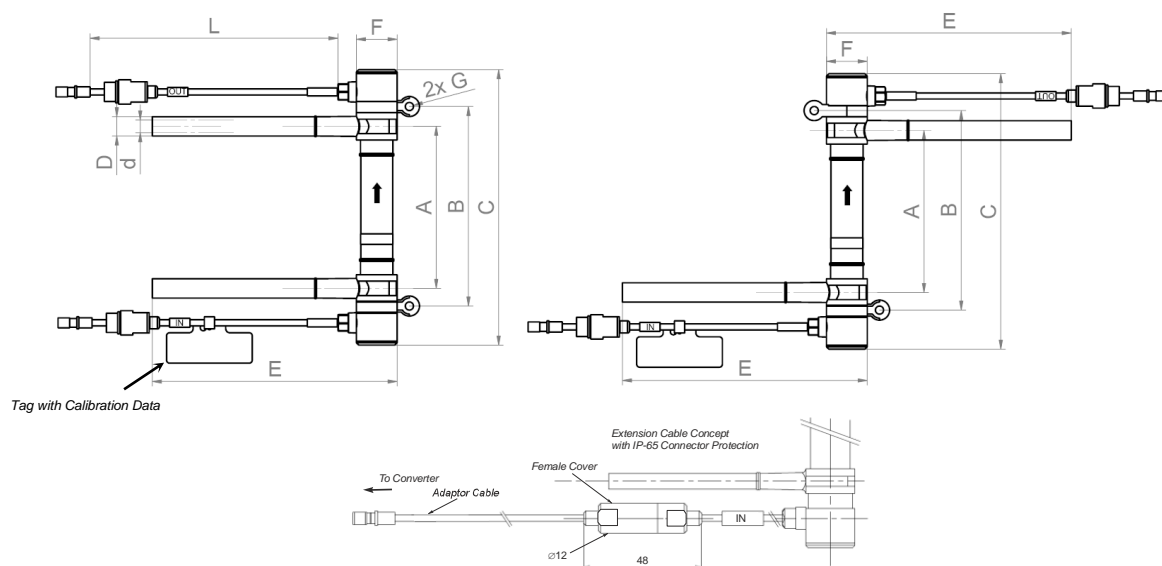
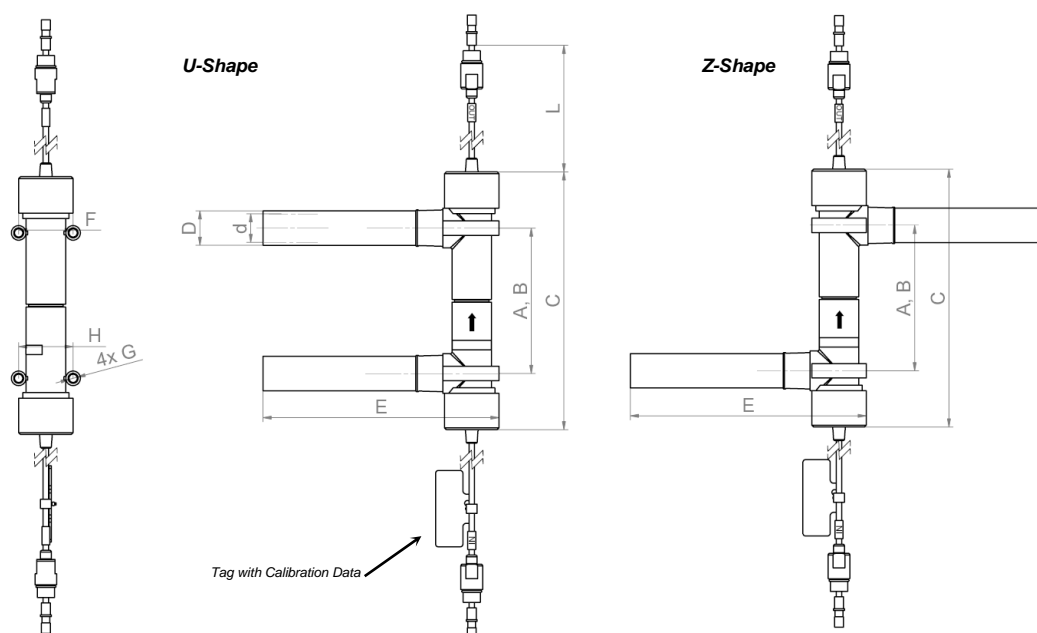
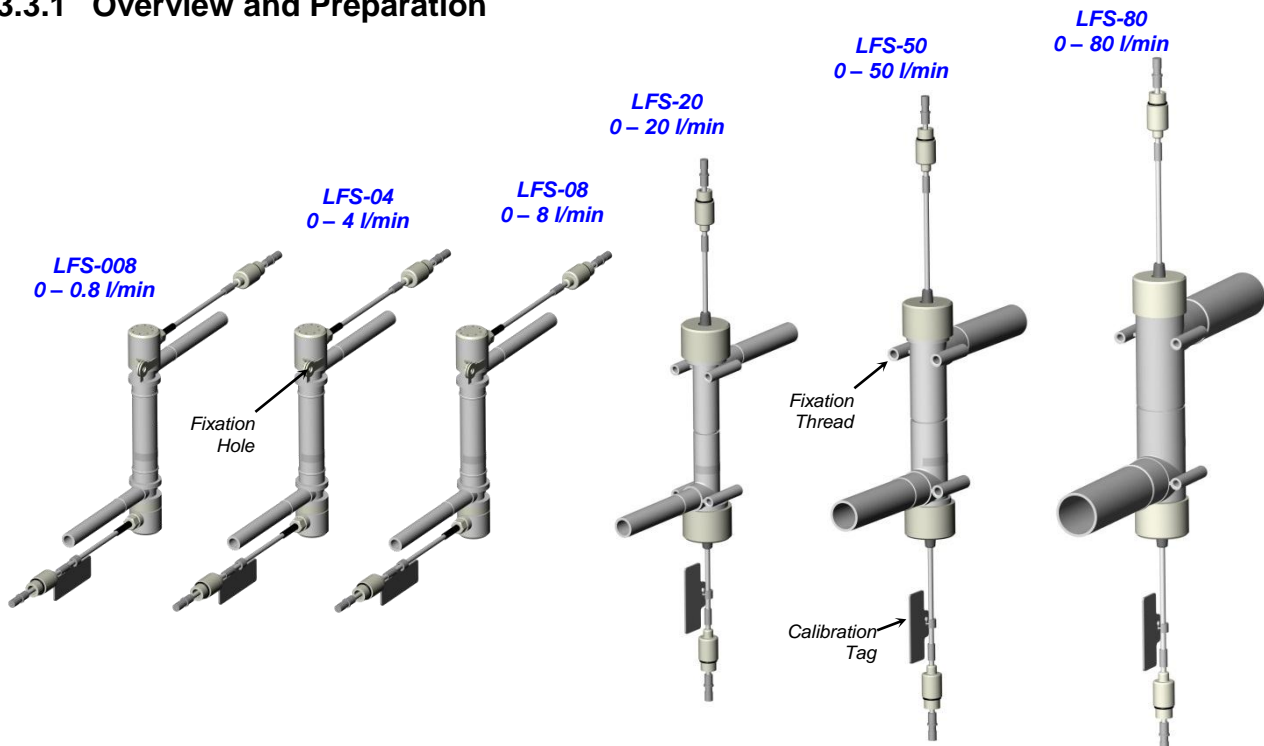

Figure 5: Dimension legend for LFS-04 and LFS-08 sensors
Figure 6: Dimension legend for flowsensors LFS-20, LFS-50 and LFS-80
Figure 12: Flowsensor models
1. Check if the *Sensor S/N* (serial number) and the *Sensor Type* on the sensor specific label on the converter back side (see *Figure 10b*) corresponds to the data of the used sensor. If no sensor specific label is applied on the converter the *LEVIFLOW™ Configuration Software* (see *Section 4.4*) has to be used to load the sensor specific calibration data (available on the sensor tag, see *Figure 6*) to the converter. Consult the configuration "*Configuration-SW User Manual*" (Levitronix® Doc.# PL-4501-00) for handling with the *LEVIFLOW™* configuration software
2. For sensor cable length variations the extension cables can be used (described in *Table 3*). Similar to the sensor cables, the pair of extension cables is labeled accordingly with "IN" and "OUT". Screw together the two connector protection covers of the sensor (male) and the extension cables (female) (see *Figure 5*) in order to achieve an IP-65 protection of the connectors. Do not shorten the cables on-site as a special tool is needed to assemble the SMB connectors.
1. In order to mechanically fix the sensor body 2 fixation holes can be used for the LFS-008 and LFS-04/08 models (see Figure 5 and Figure 12) and 4 threads for the LFS-20/50/80 models (see Figure 6 and Figure 12).
5. An arrow mark on the flow sensor (see Figure 5 and Figure 6) indicates the flow direction. Make sure that the arrow corresponds to the direction of the flow in the hydraulic circuit.